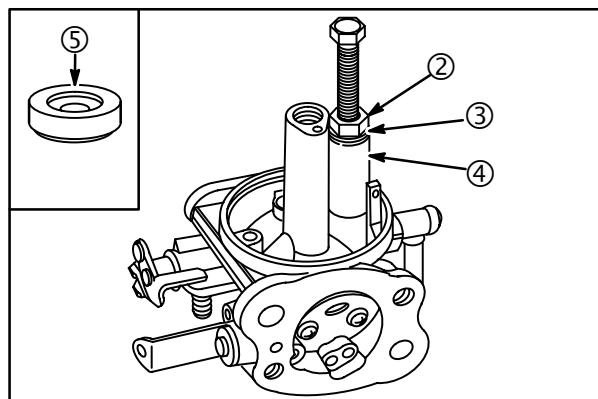

Fig. 50
2. Install 1/4" x 20 Nut **#92278** (2) and Washer **#224061** (3) from **#19332** Tool Kit onto screw, **Fig. 50**.
3. Place a 1/4" drive 9 mm (3/8") socket (4) over seat body.
5. Continue turning until seat body is removed. Remove fuel inlet seat (5).